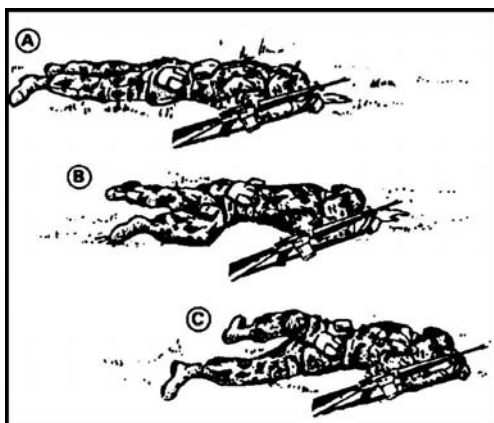

Figure 071-326-0502-3. Low crawl
5. Use the low crawl (figure 071-326-0502-3).